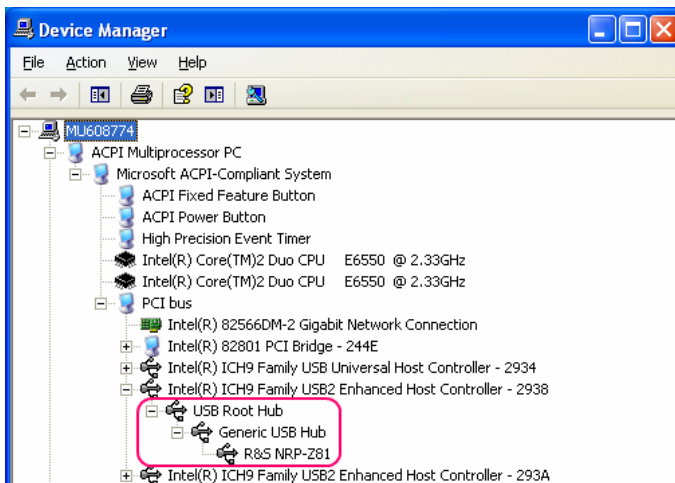

Fig. 1-10 Identification of USB root hub on which R&S NRP-Z5 is operated
3. Now identify the USB root hub on which the R&S NRP-Z5 is operated. To do so, expand the hierarchical display of the PC components, as shown in Fig. 1-10. Under **PCI bus**, find the USB host controller to whose root hub the R&S NRP-Z5 is connected. The R&S NRP-Z5 is shown as the **Generic USB Hub**. It can be distinguished from other USB hubs by the power sensor connected to it.